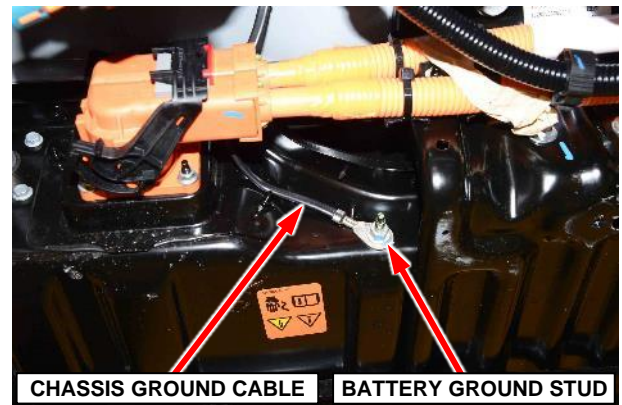

Figure 40 – HV Battery Ground
- 59. Remove the High-Voltage (HV) battery ground stud nut and the chassis ground cable from the stud (Figure 40).